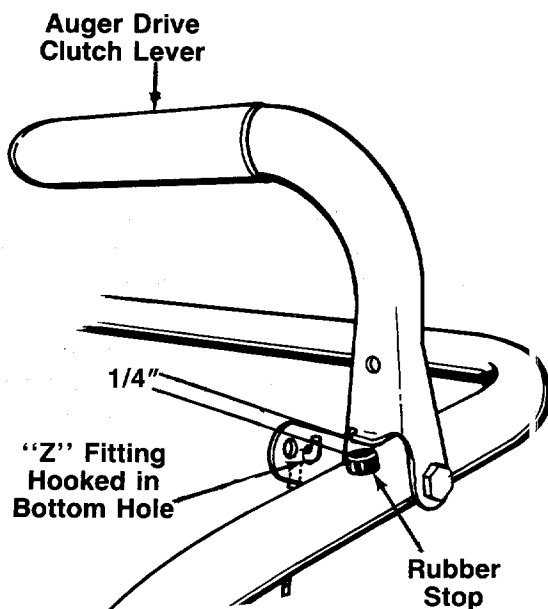

FIGURE 14.
1. Hook the "Z" fitting on the end of the auger cable into the bottom hole in the auger drive clutch lever (left hand side of handle). Hook the fitting from the inside to the outside as shown in figure 14.
2. Raise the clutch lever so it is approximately 1/4" away from the rubber stop on the handle, as shown in figure 14. With the clutch lever in this position, thread the ferrule onto the end of the auger cable until it lines up with the hole in the auger bracket.